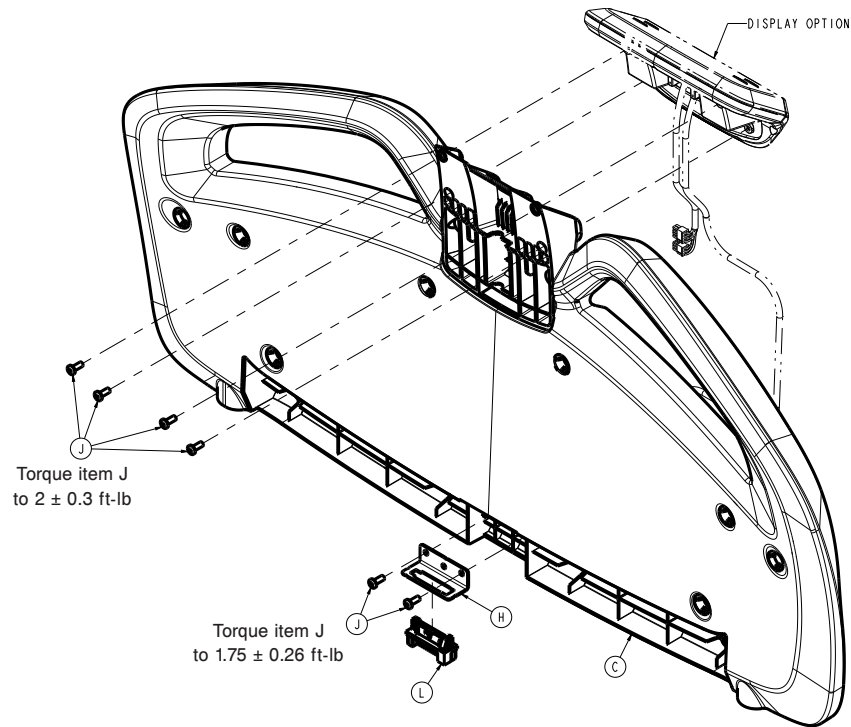

Figure 36 – Footboard housing
7. Using a T25 Torx driver, remove the four screws (J) that secure the display housing to the footboard (Figure 36). Let the display housing hang. Save the screws.